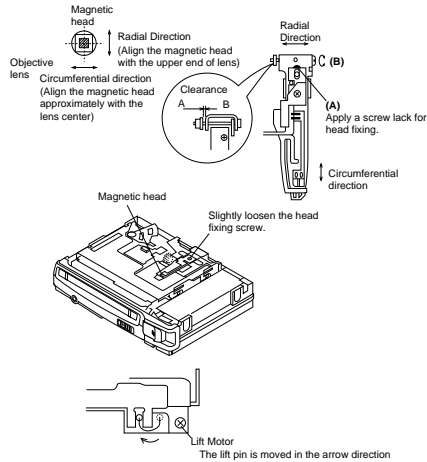

Figure 16-2
- Circumferential direction: Slightly loosen the head fixing screw (A), and shift the magnetic head fitting to align the head with the pickup objective lens.
- Radial direction: Turn the magnetic head circumferential adjustment nut (B), and adjust to align the head with the objective lens.
- 1*: Before setting the disc remove the decoration plate from the disc lid, and fix it as shown in Figure 16-2.
- Make sure that there is a clearance as shown in Figure 16-2 and that the magnetic head moves up and down smoothly.
- After adjustment apply Screw Lock to the head fixing screw (A) and adjusted magnetic head radial adjusting screw (B).